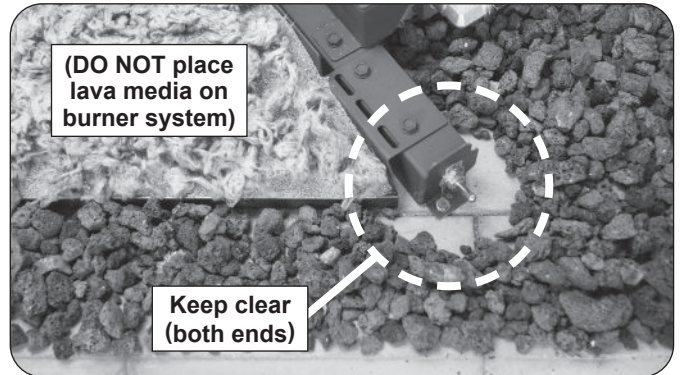

Fig. 15-2 Lava media placement detail
- **DO NOT place any lava media on the burner system, behind it, or under a knob/igniter/switch if one exists (at the ends of the burner).** See Fig. 15-2.